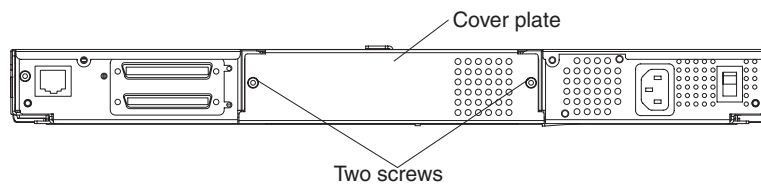

Figure 24. Removing the tape drive cover plate
- ___ 6. Using a #1 Phillips screwdriver, remove the two screws securing the cover plate (see Figure 24). Set the cover plate and screws aside.